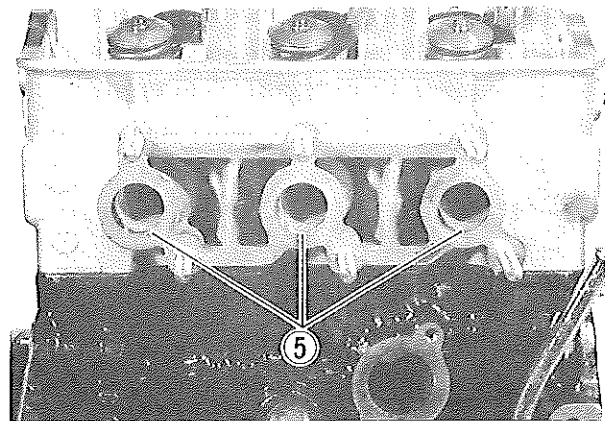

Fig. 4-125
The position the cylinder head takes on the block is but one, which is shown in Fig. 4-125. When placing the head on the block, be sure that it is correctly oriented: the clue is the inlet ports ⑤.